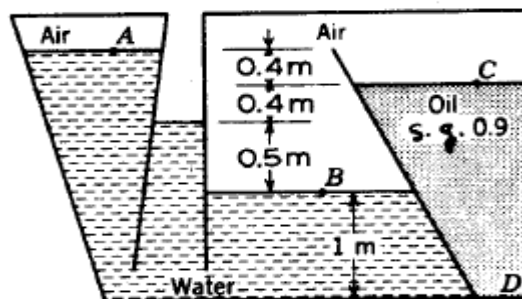

Figure 2
- b) Calculate the pressure, in kPa, at A, B, C, and D in Figure 2.